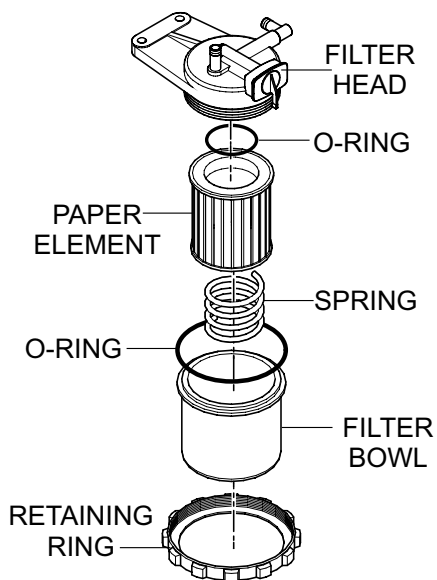

Figure 62. Fuel Filter Disassembly
2. Unscrew the filter bowl (Figure 62) from the fuel filter head.
1. Unscrew the filter bowl from the fuel filter head (Figure 62).